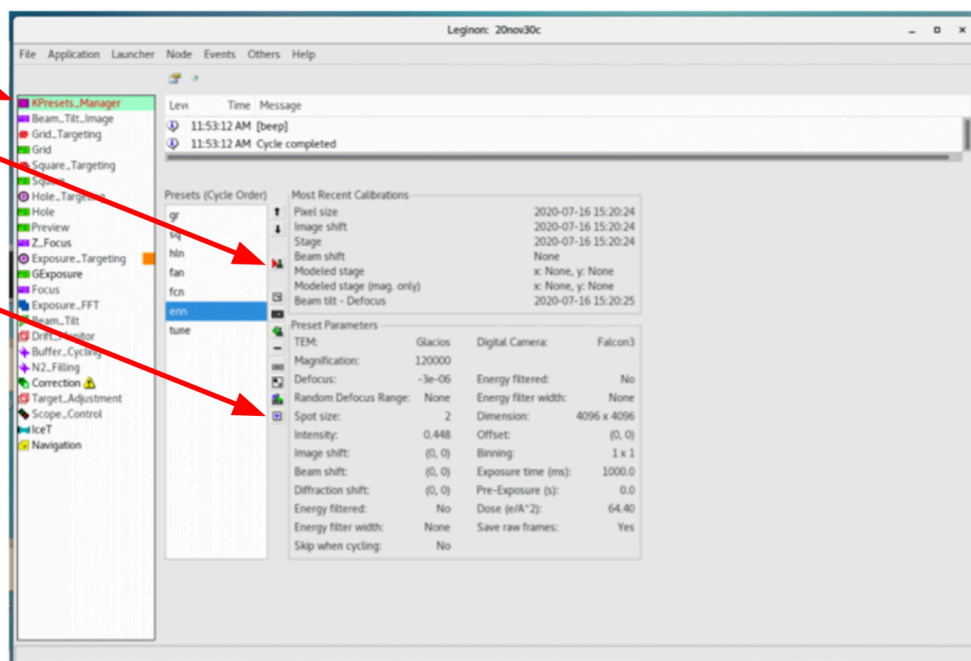

Figure 2. Leginon interface with Presets Manager node, “import presets” and “send to scope” buttons highlighted.
- 4.1.4. Upload presets (see Figure 2)
### 4.2.3. In Leginon, from the Presets\_Manager node, click on the GR preset and send it [to scope] (Figure 2)